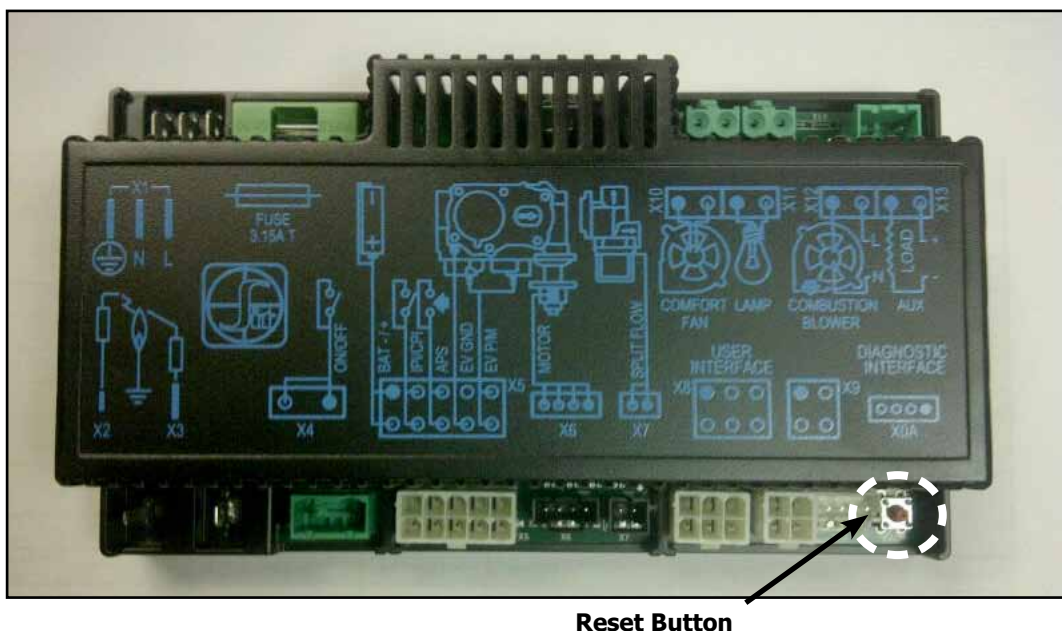

Figure 5: Integrated Fireplace Controller
The IFC is the master controller for your fireplace control system known as Proflame 2. This unit will control all aspects of the fireplace by receiving commands from the remote transmitter. This controller is powered by 120VAC but can also run off a (4) AA battery back-up if there is a power outage. Only main burner control can be used while operating with the battery back up; auxiliary components, such as the convection fan, cannot be used. Use the reset button (see Figure 5) to synchronize the remote transmitter to the IFC for the first time, or after batteries have been replaced.
Install the four (4) supplied AA batteries into the IFC battery holder. The remote transmitter should come from the manufacturer with the batteries already installed. Press the reset button on the IFC (see Figure 5) and listen for three (3) beeps. Press the ON key on the remote transmitter and listen for another beep sequence. Once the command has been accepted then the system is initialized and ready for use.